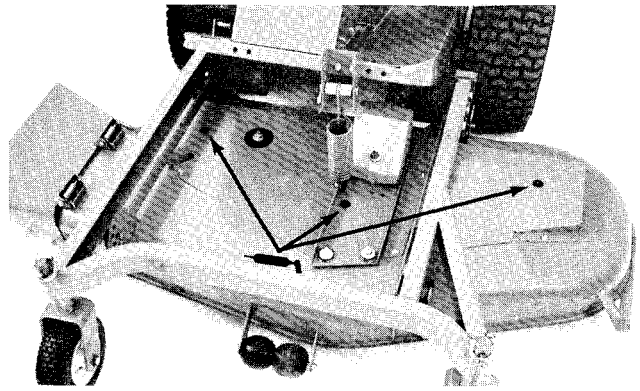

Figure 17
1. The cutting unit has bearings and bushings that must be lubricated, and these lubrication points are: caster spindle bushings (Fig. 16); castor wheel bearings (Fig. 16), and blade spindle bearings (Fig. 17).